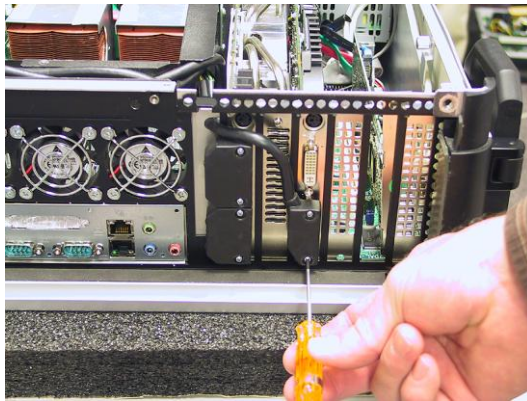

Figure 5-39
- 1) Open the display assembly into its service position as discussed earlier in this chapter. Use a Phillips #1 screwdriver to remove the screws holding the over-molded DVI video connector to the PCI Express graphics card (Figure 5-39).